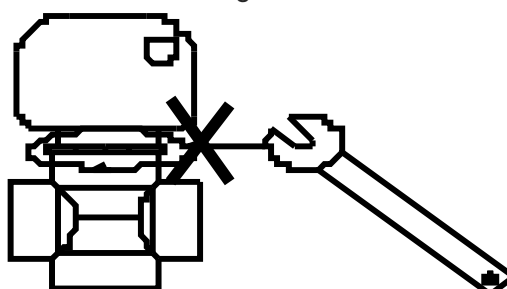

Figure 10
- The flow switch must be installed on a straight pipeline, there must be more than five times the length of the pipe diameter at its two sides. And, the direction of fluid must follow the arrow on the controller. The terminal block should be in an easy operation position, (Figure 10)